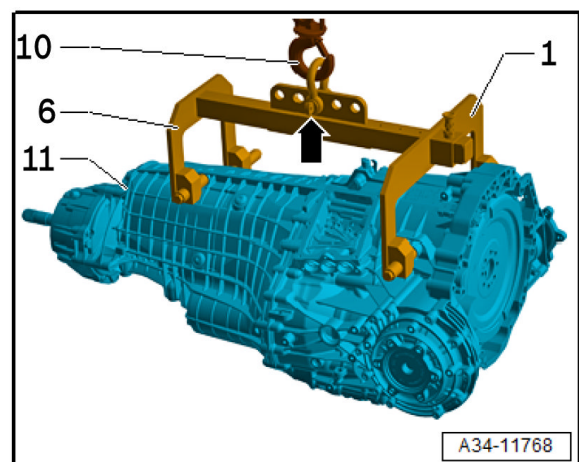

Figure 2: Suspension and holding fixture attached to the gearbox
7. If necessary, hang the shackle (3) from another hold in the retainer (4) so that the suspension and holding fixture and the gearbox will hang straight from the workshop crane (see Figure 2).